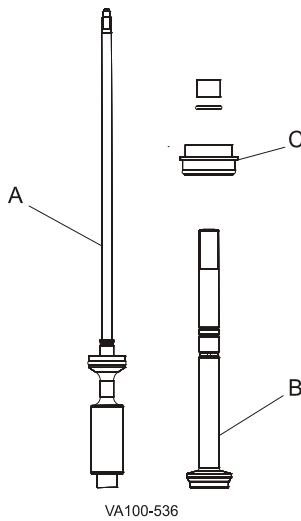

Figure 20 - Stem Removal
2. Upper stem removal: Hold the adjusting sleeve stationary with a spanner wrench, turn the stem (Figure 20, item B) counter-clockwise, and remove it from the actuator. If the adapter (Figure 20, item C) comes out of the yoke, handle it with care.
Table 7: Call-out table for Figure 20